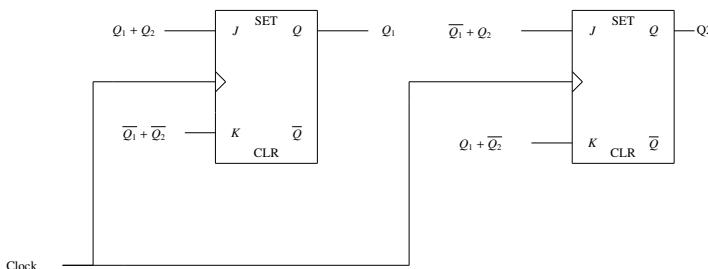

Fig. 5.23
23. A 2-bit synchronous counter using two J-K flip flops is shown in Fig. 5.23. The expression for the inputs to the J-K flip flops are also shown in the figure. The output sequence of the counter starting from  $Q_1 Q_2 = 00$  is GATE-IN2018,44